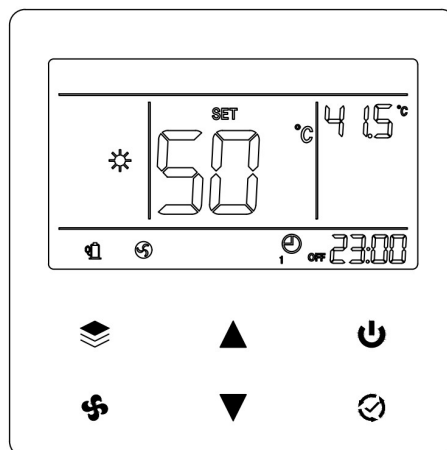

Figure 9. The most recent scheduled task at the current time
7. After the timing setting of period 1 is completed, the scheduled time stops blinking and displays the scheduled task that will be executed first. If the current time is 10:00 and the unit is on, the unit shutdown task at 23:00 in period 1 will be executed first. Its display interface is shown in Figure 9.